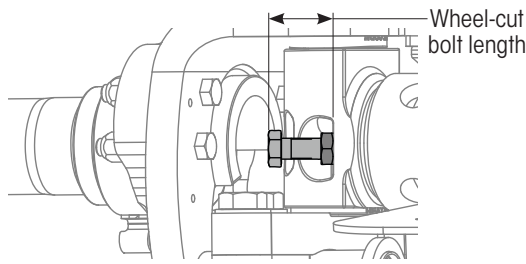

Figure 22: Wheel-cut bolt length measurement
6. **Measure** (Figure 22) and **record** current wheel-cut bolt length. Refer to Table 7 on page 20.